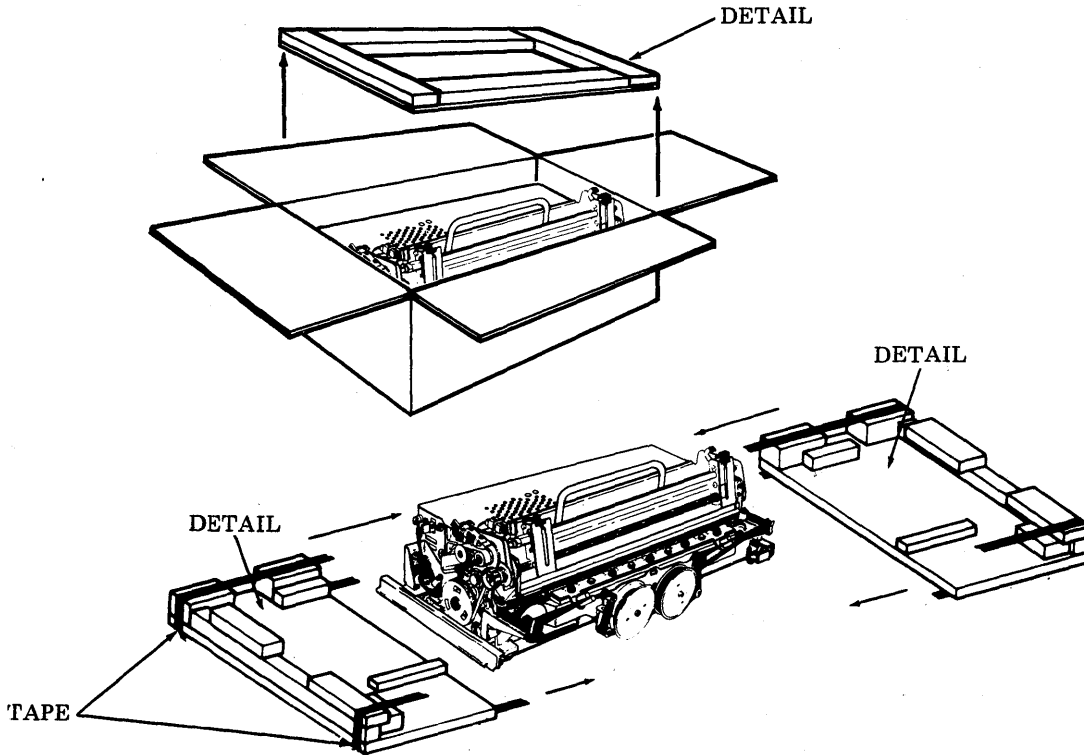

Fig. 6—Printer Packing Details
2.05 Lift printer carton out, open it, and remove packing detail (Fig. 6). Lift printer out.
2.06 Remove packing details from the printer (Fig. 6).